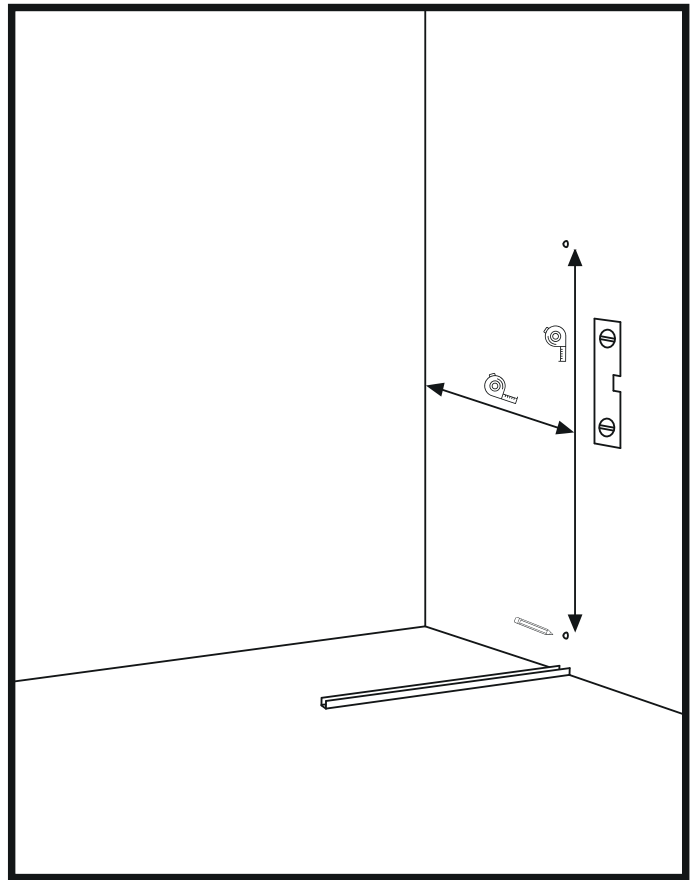

Figure 4
7. Make the appropriate measurements on the vertical side of the glass, where the mounting locations for the mounting clamps are marked. (Figure 4)